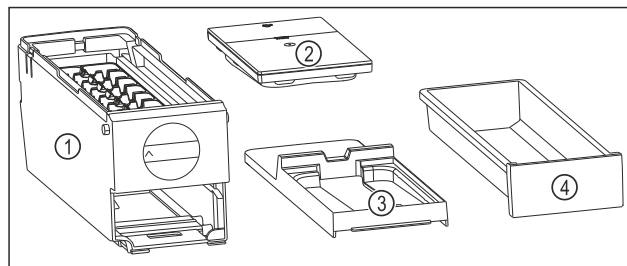

Fig. 70 Components of the EasyTwist-Ice
- ▷ EasyTwist-Ice is dismantled into four parts. (see Fig. 70)
- Only dismantle the EasyTwist-Ice into the components shown. (see Fig. 70)
- Clean the EasyTwist-Ice body Fig. 70 (1) as a whole.